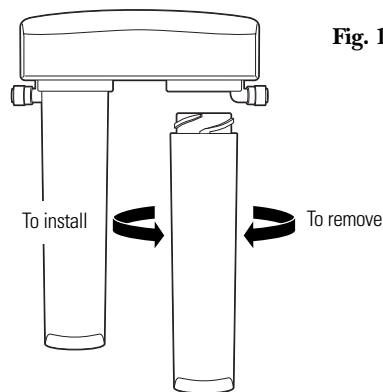

Fig. 13
1. Remove the filter canisters from the manifold by rotating the canisters to the left about 1/3 turn (Fig. 13). **NOTE: A small amount of water from the tubing between the filter and the faucet may come out. A small towel should be able to catch it.**